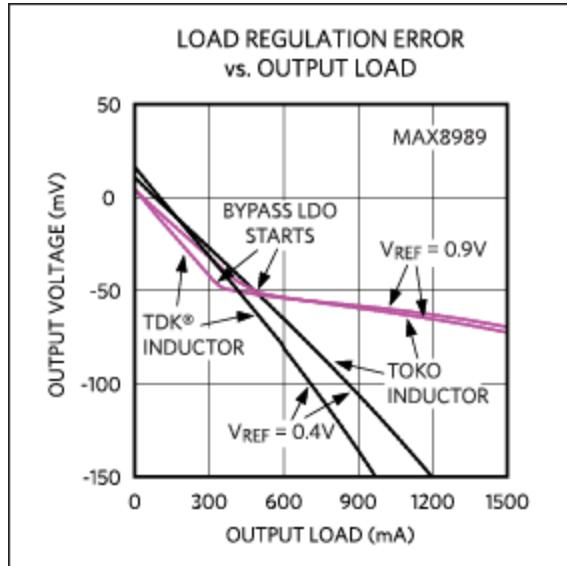

Figure 2. Data show the load regulation error versus output load for the MAX8989.
**Figure 2** illustrates the effect of the bypass LDO on output voltage regulation. Here, the bypass LDO is disabled in the case of  $V_{REFIN} = 0.4\text{V}$ ; for  $V_{REFIN} = 0.9\text{V}$ , the bypass LDO begins operation when the output voltage drops 50mV and the load regulation ramps down at a slower rate. Two 4.7 $\mu\text{H}$  inductors (a
TOKO® DFE252012C series inductor and a TDK® VLS252015ET series inductor) are used and noted in Figure 2. With different inductors, the bypass LDO starts at the same 50mV point. But since the TDK inductor has bigger DCR and causes a higher voltage drop across the inductor, the bypass LDO begins operation at a lower output current.